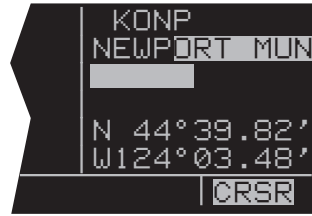
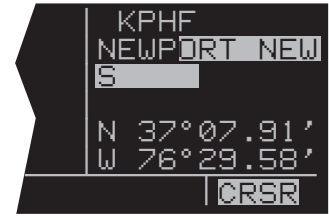

Figure 3-84
Figure 3-85
12. Pull the right inner knob to the “out” position (figure 3-84). Once again rotate the knob to scan through all the airport names beginning with “NEWP”. How about that! Now there are just a few names and Newport News is easy to find, **KPHF** (figure 3-85).